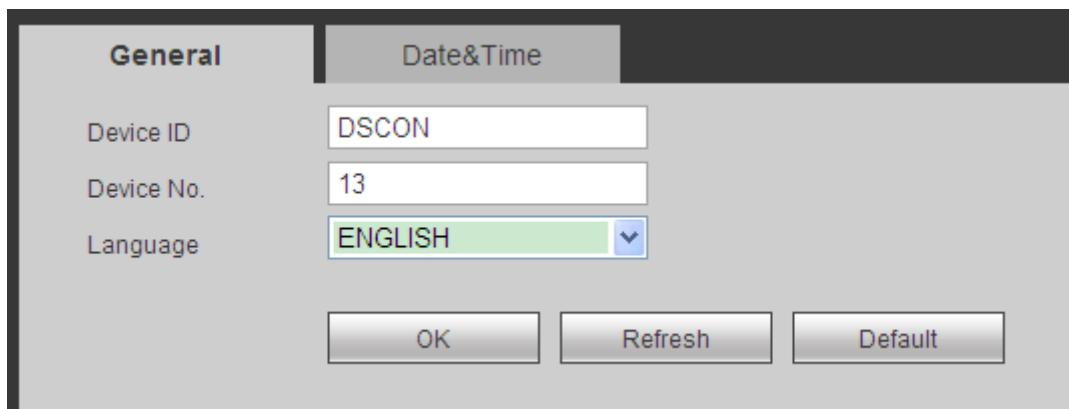

Figure 3- 23
Step 1. Select settings>system config>general setup. System displays Figure 3- 23.